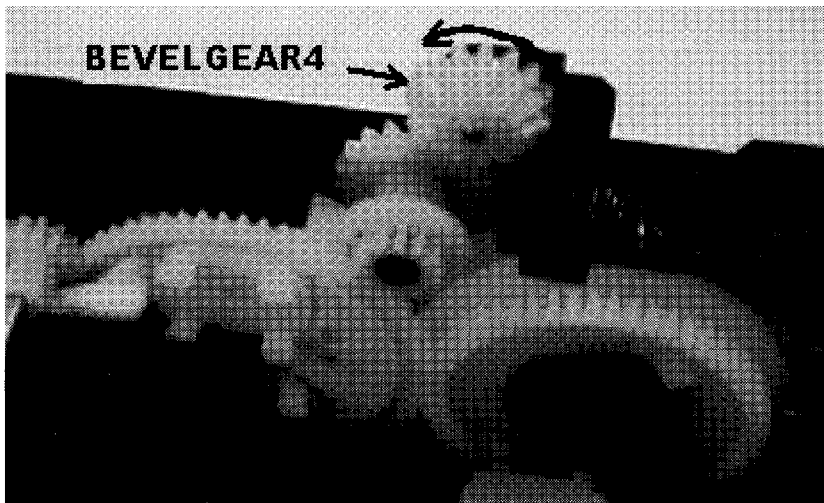

Fig.14
- 1) Turn BEVEL GEAR 4(17) anti-clockwise. (See Fig. 14.)
- 4) Then, turn BEVEL GEAR 4 (17) anti-clockwise and take out the second CARRIAGE.